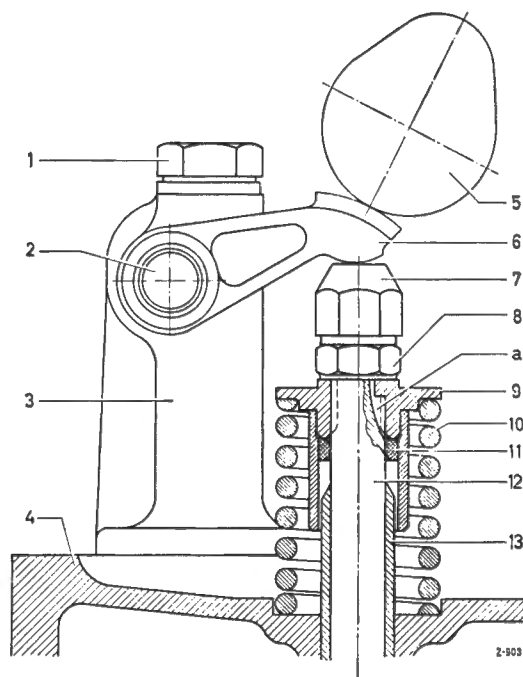

Fig. 00-3/4
If the adjusting torque is less, either the ball pin head (3) or the ball pin base (1) or both parts must be replaced. If the tappet clearance is too small and the ball pin head with hexagon SW 14 cannot be screwed further into the ball pin base, a thinner pressure piece (7) can be installed in the valve spring retainer (9) (Fig. 00-3/1). The standard thickness of the pressure pieces is 4.5 mm but they are also available 3.5 mm and 2.5 mm thick. To replace the pressure piece the rocker arm must be removed (see Job No. 05-1).